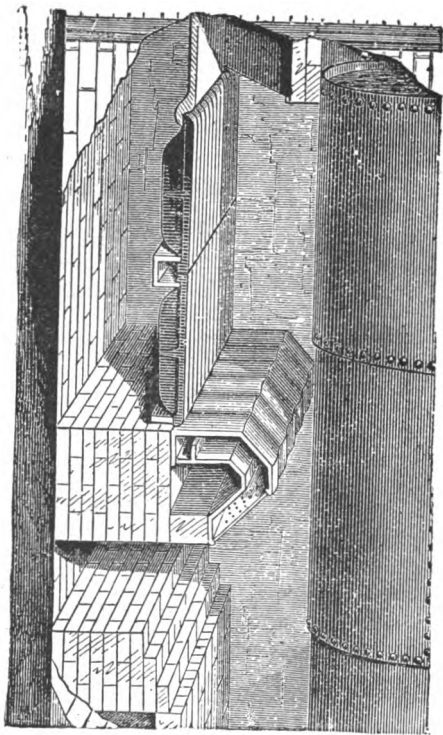

Fig. 118.—McMURRAY BRIDGE WALL.
A. There is a corrugated hollow bridge wall which admits air behind it, having previously heated it by the impinging flames. Its construction is shown in Fig. 118.